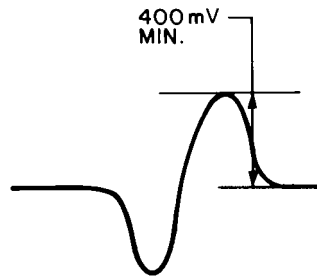

Figure 10.
- d. If the print wheel spins continuously (8 revolutions) without finding its home position, it will issue a CHECK command. This may indicate that sensor (B) is located too far from the print wheel stops. Use a feeler gauge to verify 0.003" to 0.007" clearance between the surface of the sensor and the edge of the flag. Retighten nut (D). Use care to avoid twisting the wires to the sensor enough to cause strain and subsequent failure.
- e. The electrical signal out of the sensor should be at least 400 mV (Peak). Figure 10 illustrates this signal, as seen at the input to the print wheel home sensor amplifier on the SCE assembly (J3 pin 13).